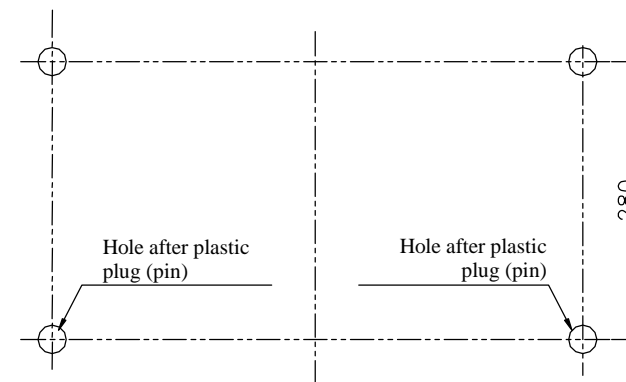

Fig. 2
3. Find plastic protruding plugs (pins) on the left and right side in the trunk. Take them out. Raised holes are base holes. Mark second holes as shown on the figure 2. Next drill marked holes straight through using bit $\phi 11\text{mm}$, then enlarge it only from luggage part by bit $\phi 17\text{mm}$.